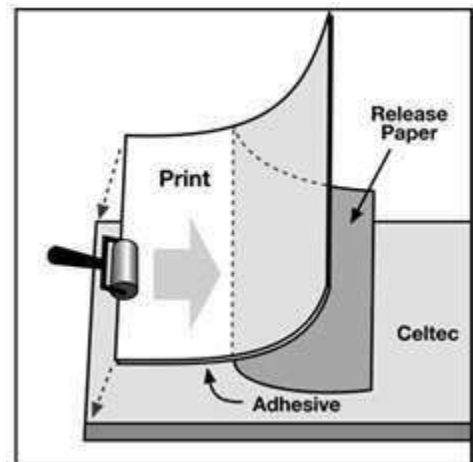

Figure 5i
7. Gradually remove the liner while pressing closely with a hand roller or a squeegee to eliminate any air bubbles until the entire print has been laminated (Figure 5i).